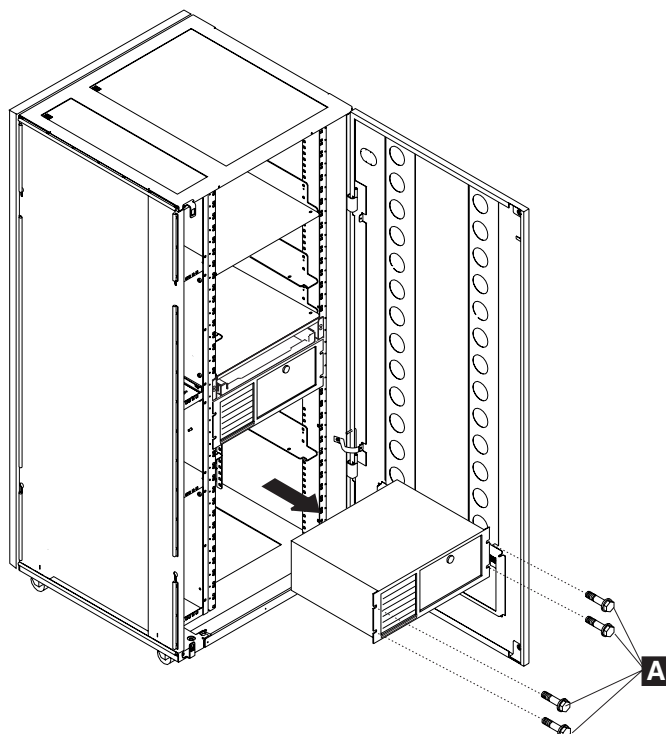

Figure 4. Removing the 3172 from the Controller Expansion
- ___ 4. If you remove a NNP based on 7585, at the front side of the rack loosen the four screws **A**, then slide out the NNP (see Figure 4 on page 8).